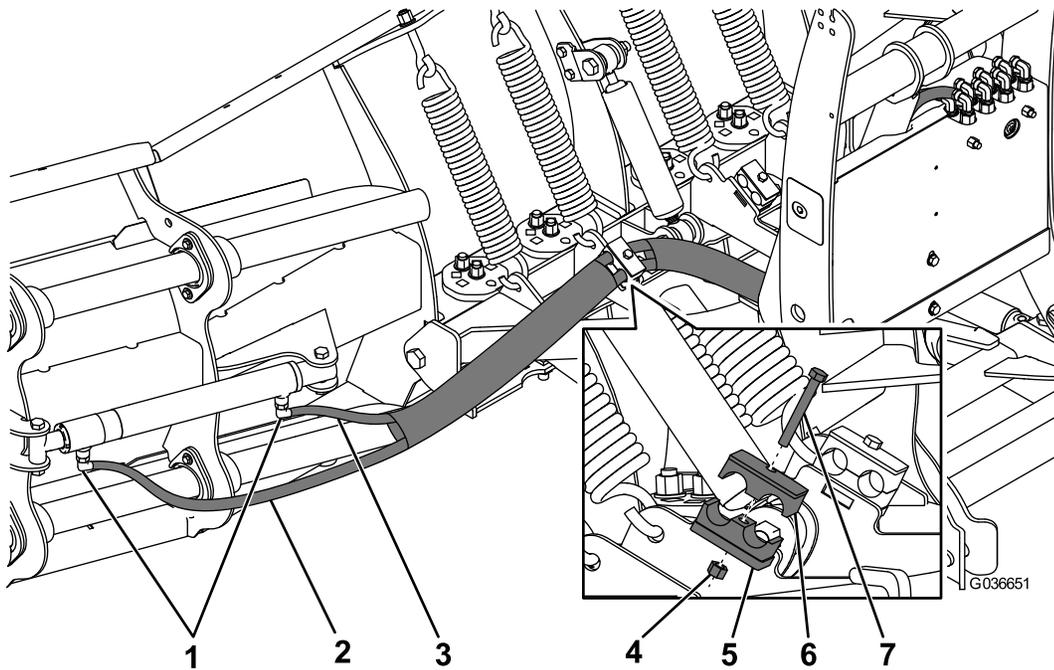

Figure 8
2. Slide the 2 hoses through 2 pieces of hose wrap as shown in Figure 8.
3. Secure the hoses to the left hose-clamp using a bolt (5/16 inch) and nut between the 2 sections of hose wrap (Figure 8).
4. Using thread compound, install 90° fittings to the left wing extension cylinder (Figure 8).
5. Connect the 1.5 m (59-1/2 inch) hose to the inner fitting on the left wing-cylinder (Figure 8). Turn the fitting until it is finger tight, then turn it another 1/4 to 1/2 turn.
- Connect the 1.8 m (73-1/2 inch) hose to the outer fitting on the left wing-cylinder (Figure 8). Turn the fitting until it is finger tight, then turn it another 1/4 to 1/2 turn.
- Connect the other end of the hose to the left push-frame cylinder (Figure 8), and turn the fitting until it is finger tight, then turn it another 1-1/2 to 3 turns.